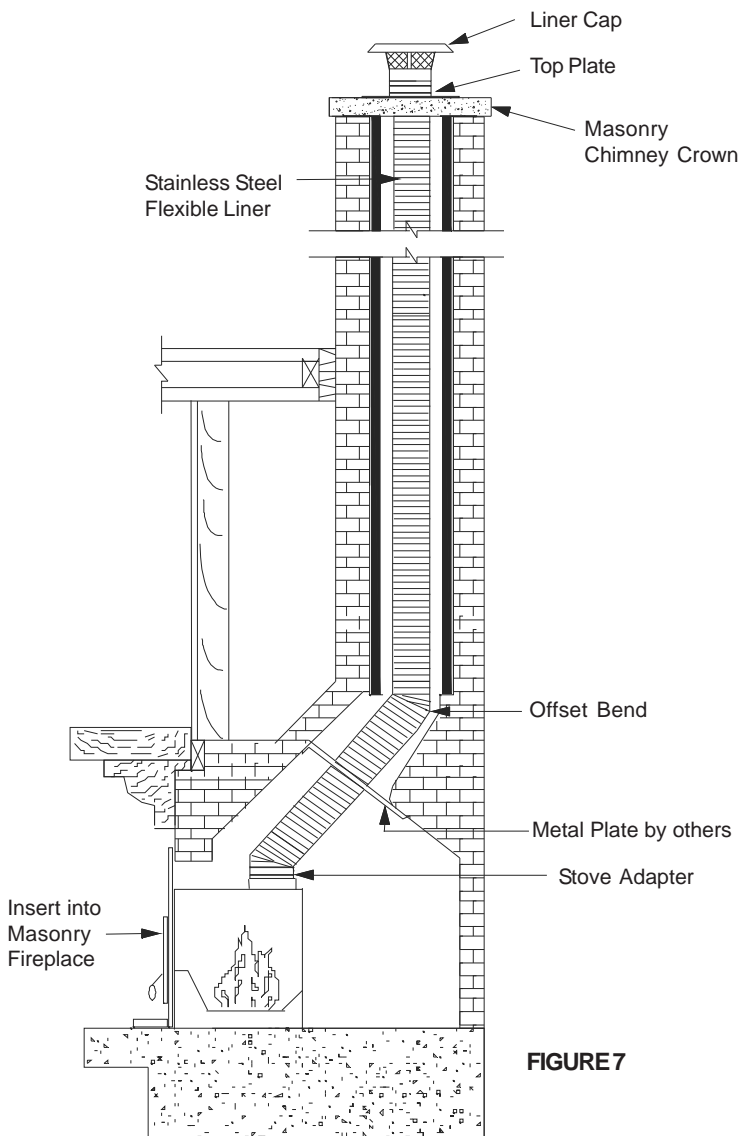

FIGURE 7
- For an insert application into a masonry fireplace, a Insert Liner Kit is available. For this application a tee and tee cap are not required. This kit comes with a Stove Adapter made to accept our liner into the top female end with our worm drive clamp to tighten it in place. The Stove Adapter slips into the top of the insert collar for an easy transition. See Figure 7 for a basic installation.